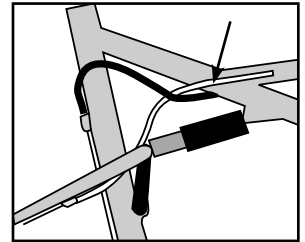

Fig. 22
3. The front derailleur housing exits the rear of the top tube on the left side. Thread it under the frame to the right side of the bike, under the rear derailleur housing, and then to its cable stop on the seat tube (Fig. 22).
Use the paint protection dots (supplied with each bike in the Owner's Manual bag) to prevent the housings from abrading the paint on the top tube as the suspension moves. The right side of these points is indicated by the arrow in Figure 22.